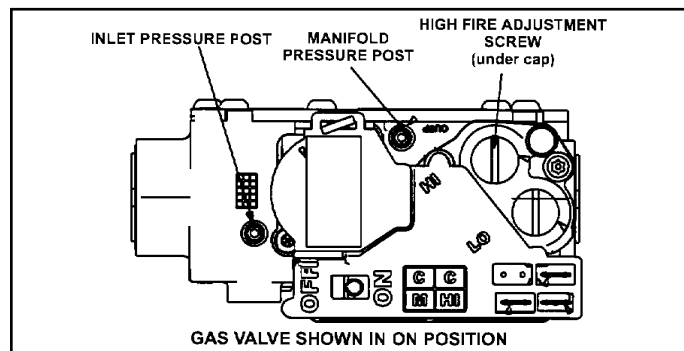

Figure 71.
6. Move gas valve switch to OFF. See Figure 71.
8. Move gas valve switch to ON. See Figure 71.
An inlet pressure post on the inlet side of the gas valve provides access to the supply pressure. See Figure 71. Back out the 3/32 Hex screw one turn, connect a piece of 5/16" tubing and connect to a manometer to measure supply pressure.
1. A manifold pressure post located on the gas valve provides access to the manifold pressure. See Figure 71. Back out the 3/32 Hex screw one turn, connect a piece of 5/16" tubing and connect to a manometer to measure supply pressure.